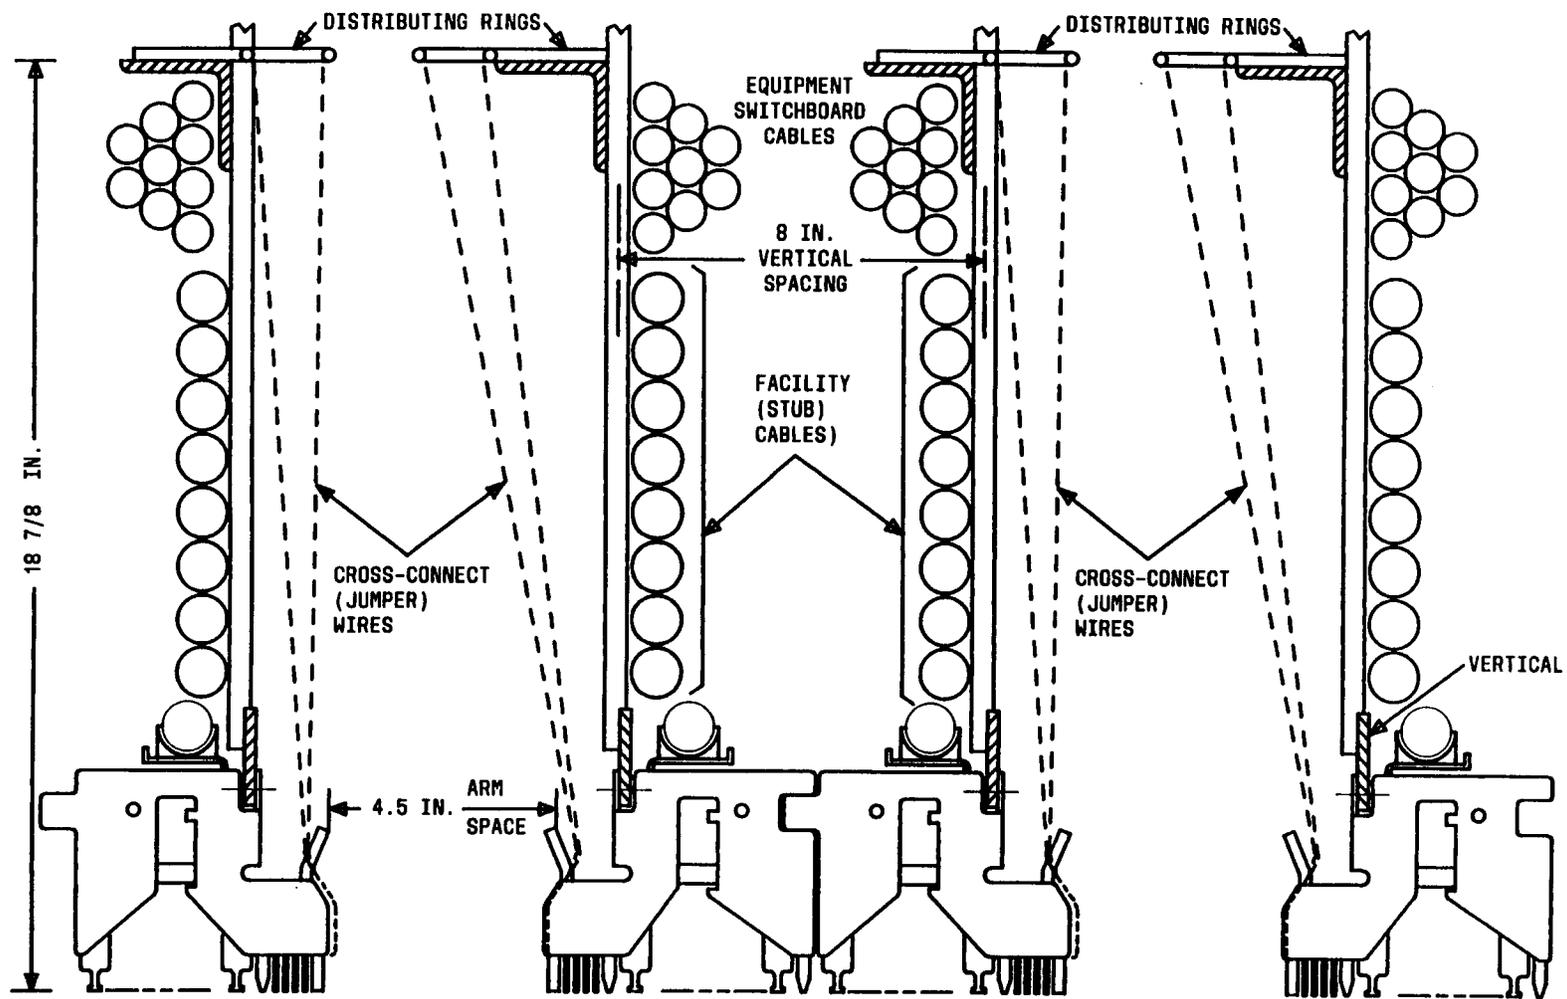
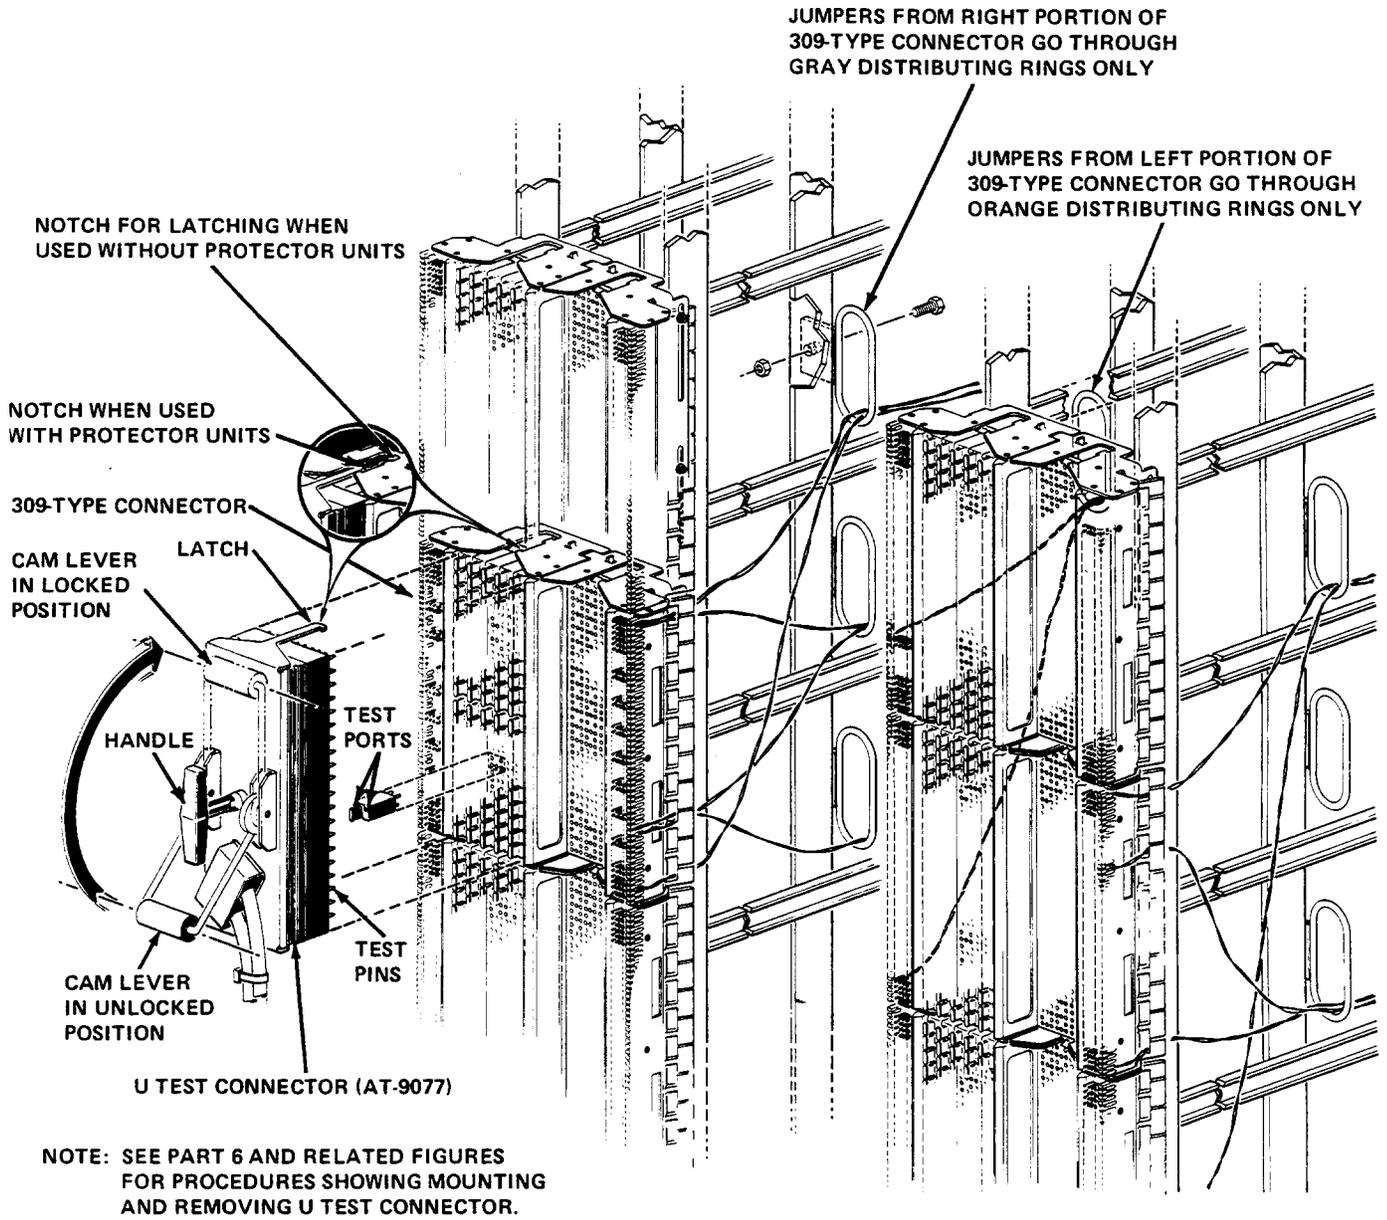

Figure 3—Plan View Looking Down on Frame
Figure 6—309-Type Connector—Installations and Operations
(1) The associated outside plant stub cables and the equipment switchboard cables are compartmentalized behind the 309-type connectors.
(2) The alternating vertical bays between the 309-type connector arrays are dedicated solely for cross-connect wiring operations (Figure 3). This concept completely isolates the permanent and stationary storage of cable from the more frequent and "churning" frame activity of terminating cross-connections.
3.07 The bivertical arrangement of 309-type connectors requires **two** distributing rings (Figure 3 and 5) in each **alternating** vertical bay. Using two distributing rings in place of one eliminates the interweaving of jumpers and produces a more organized arrangement of wiring. The distributing rings that are attached to **odd-numbered** verticals are color coded **orange**. The distributing rings that are attached to **even-numbered** verticals have the standard **light-gray** enamel finish (Figure 6).